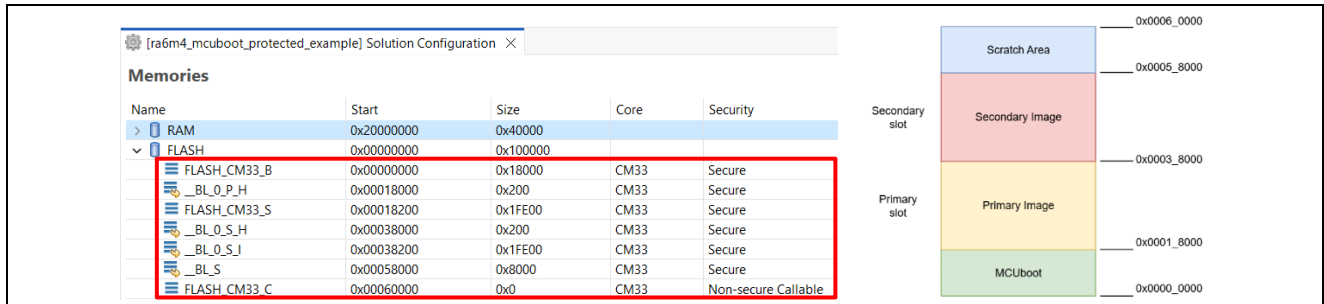

Figure 79. Define Flash Partitions for Bootloader and Application Images
4. Add the memory layout for bootloader and application. In this example, the memory partitions are defined according to the memory map shown in Figure 79. About the symbol conventions for memory partitioning, user can refer to the guide at *FSP User's Manual* under *RA Flexible Software Package Documentation > API Reference > Modules > Bootloader > MCUboot Port (rm_mcuboot_port)*.